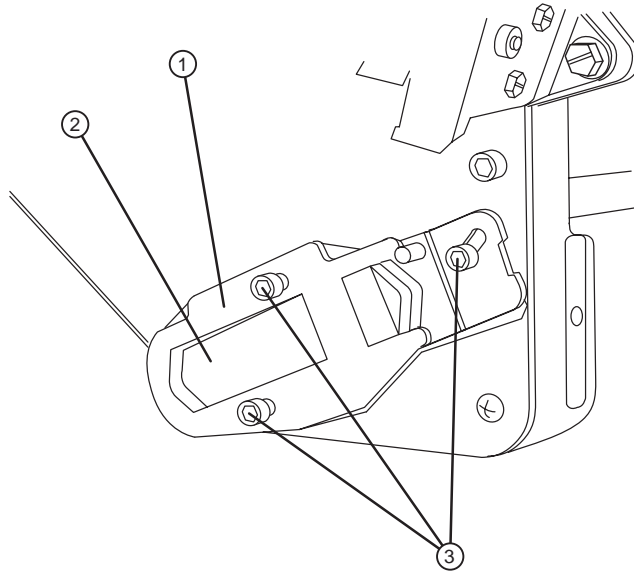

Figure 1-17 Adjusting the detent plate.
①—Spring plunger. ②—Gas shock.
5. Make certain that the detent plate adjustment allen screws are loose on the detent plate. Refer to Figure 1-17.
6. Screw the spring plungers in until the spring loaded ball centers within the front V-groove of the detent plate. Refer to Figure 1-17. Make certain that the detent just touches the ball.